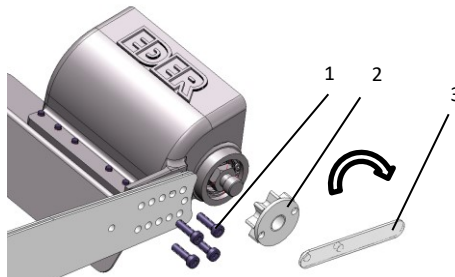

Fig. 2: Fastening the peeling head to the support
- > Screw the head you want to use with the 4 M6x20 screws (**1** - Fig. 2). Check the screws regularly for tightness. The head can be screwed on in different positions depending on the chainsaw model. The correct position is the one that allows the drive chain to be sufficiently tensioned and re-tensioned.
- > Screw the drive sprocket onto the housing (**2** - Fig.2) and tighten it with the pin wrench (**3** - Fig.2).